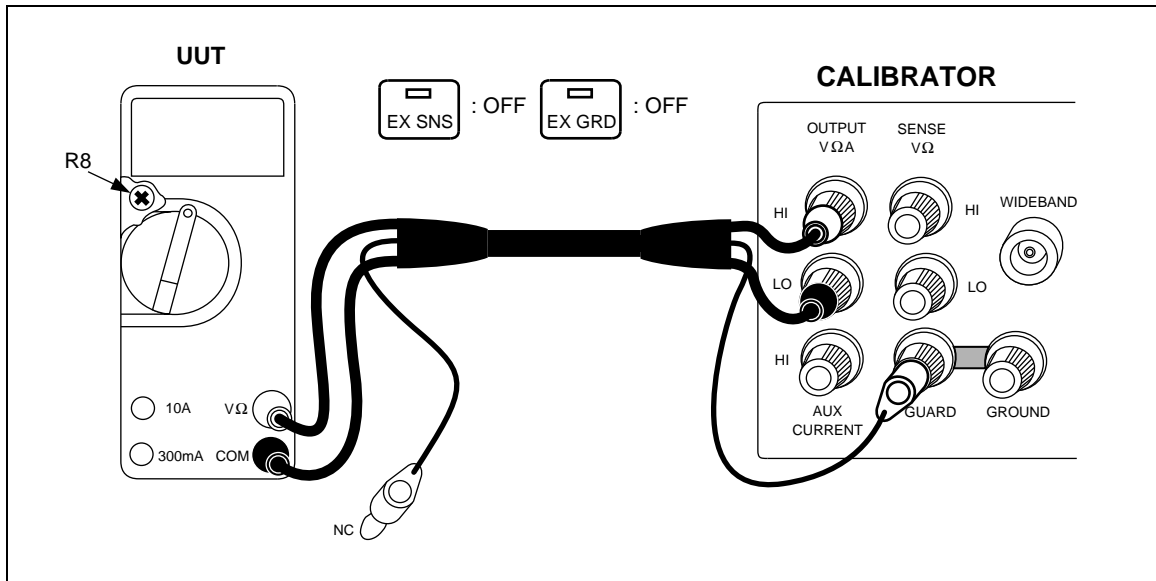

Figure 4-12. Cable Connections for Calibrating a Fluke 70 Series Multimeter
3. Connect a set of test leads to the meter as shown in Figure 4-12.